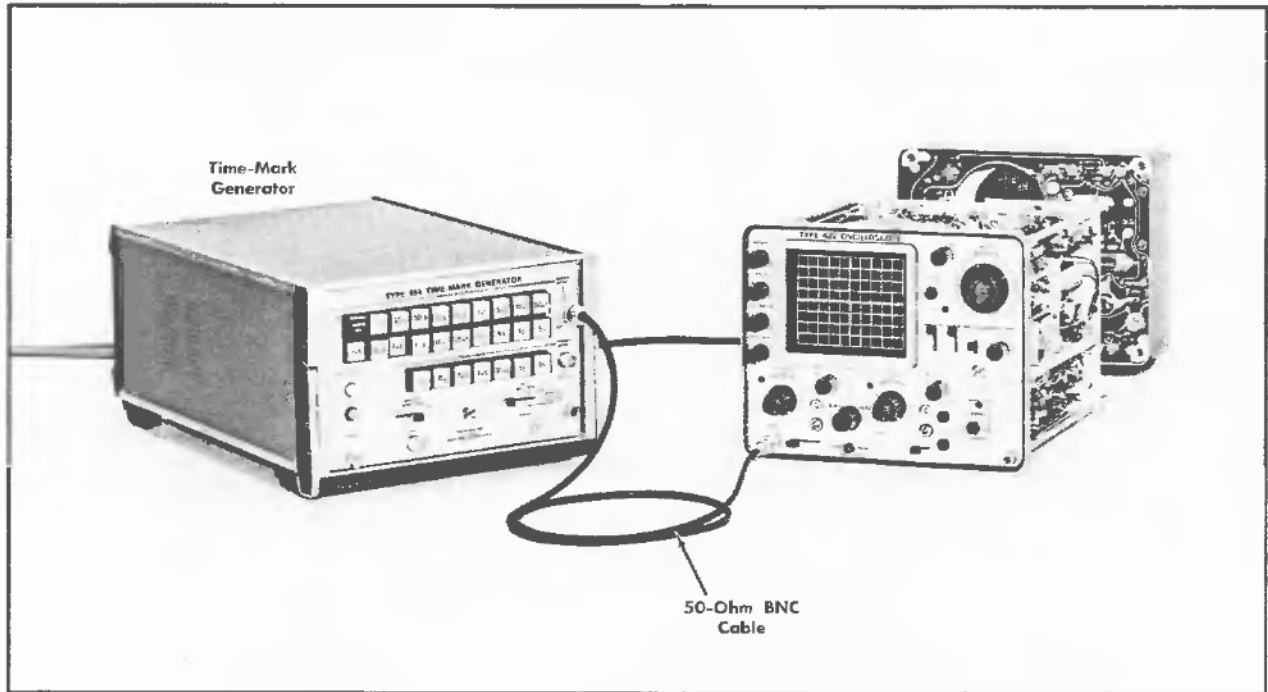

Fig. 6-10. Initial test equipment setup for steps 6—10.
- a. Test equipment setup is shown in Fig. 6-10.